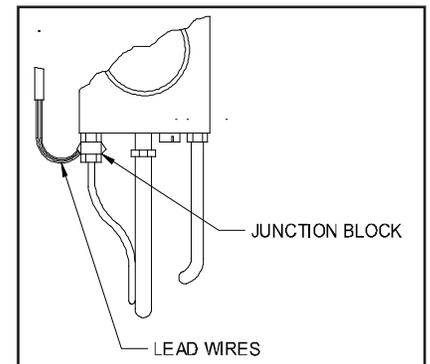

Figure 6
2. Thread TCA-1 thermocouple adapter into thermocouple port, then thread the thermocouple into the bottom of the TCA-1. (See Figure 6)